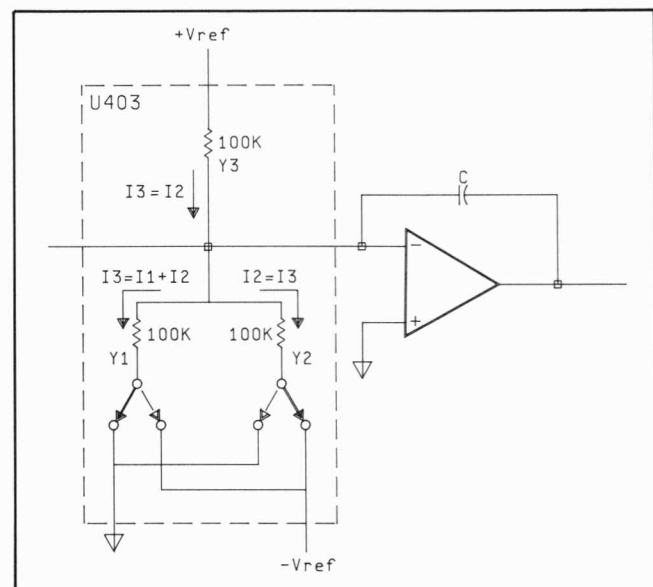

Figure 7-15. Slope S+0 and S-0 Generation
7-165. Slope S + 0 and S-0 Generation. Refer to Figure 7-15. Note that one side of a 100K ohm resistor (Y1 path) is connected to ground and the other side is connected to the summing node. Since the 100K ohm resistor from $+V_{ref}$ (Y3 path) and the 100K ohm resistor from $-V_{ref}$ (Y2 path) are also connected to the summing node, no current flows from the integrator capacitor (C). This is because the resistance value of path Y2 and Y3 is the same and makes the current value of paths Y2 and Y3 the same (but opposite polarity). This is true for both slopes S + 0 and S-0. The only difference is that paths Y1 and Y2 are switched when the slopes are switched (Y1 to ground and Y2 to $-V_{ref}$, or Y2 to ground and Y1 to $-V_{ref}$).
7-174. A/D Autozero Operation. One other A/D operation is A/D Autozero. This is NOT the same as the voltmeter's Autozero function (input amp connected to ground, see paragraph 7-142), it is only for the A/D converter. The purpose of A/D Autozero is to compensate for any offsets developed by inaccuracies between the positive and negative reference supplies, the resistors used to develop the S-4, S + 4, etc., currents, and the integrator circuitry. While referring to Figure 7-15, note that +Vref is connected to one side of a 100K ohm resistor and -Vref to one side of another 100K ohm resistor. The other ends of the resistors are connected to each other and also to the integrator. If the absolute values of the +Vref and -Vref voltages are exactly equal and the resistors are also equal, the current going into the integrator is exactly zero. Since the resistors and reference supplies are not exactly equal (they are, however, very stable), a small offset current is generated. This current plus the offset developed by the integrator itself, develops an offset voltage at the output of the integrator. This offset voltage can cause inaccuracies. The A/D Autozero circuitry compensate for that offset voltage.